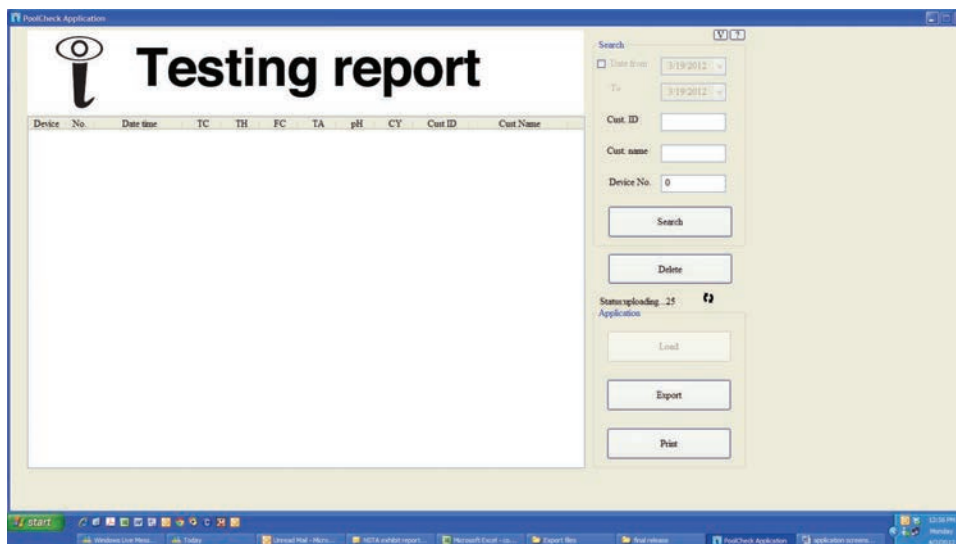

Figure 3— Uploading data
3. Click LOAD on the main screen. The analyzer will beep and “uploading . . .” will appear next to “Status:” as the data uploads to the management software (Fig 3).